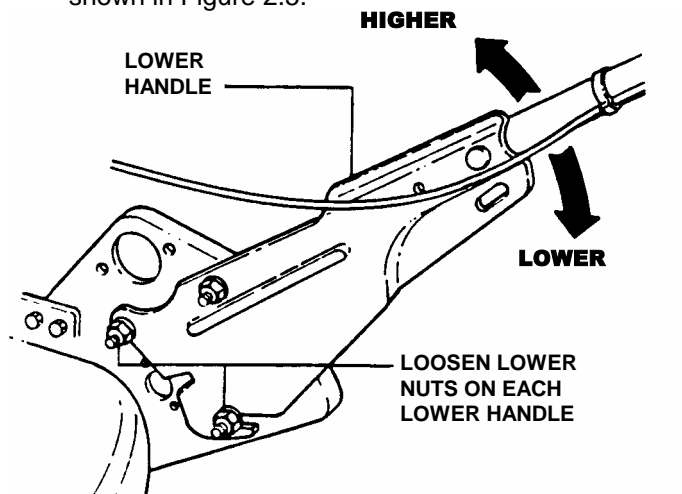

FIGURE 2.5
1. Loosen the nuts on each lower handle as shown in Figure 2.5.